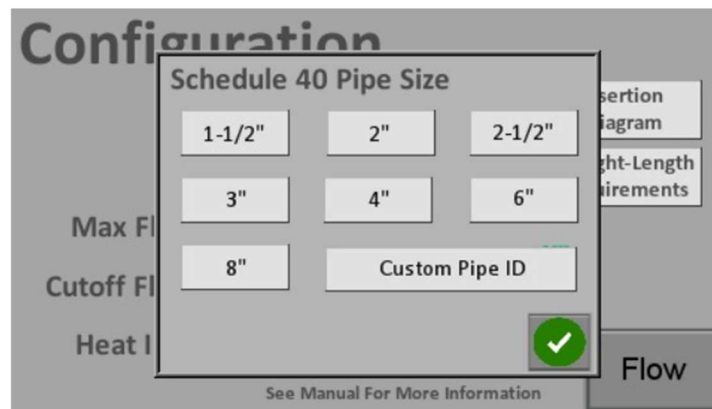

Figure 8: Schedule 40 Pipe Size Pop-up Window
12. Tap the button beside “Pipe Size”. The following menu should pop-up as shown in Figure 8 below.